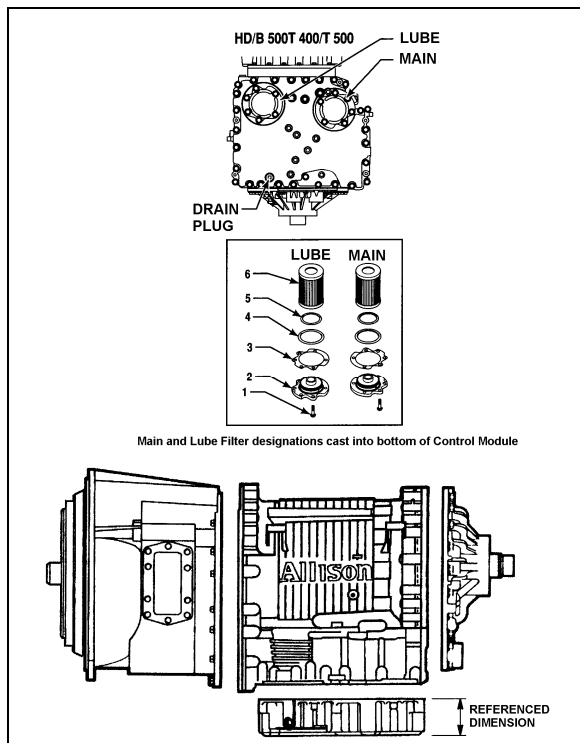

FIGURE 6: DRAIN PLUG AND FILTERS
- Remove the drain plug from under the transmission (Fig. 6) and allow the oil to drain into a suitable container. Check the condition of the oil as described previously.
- To replace the integral filters, remove twelve bolts (6 on each cover), two filter covers, two O-rings, two square cut seals and the two filters from the bottom of the control module (Fig. 6).